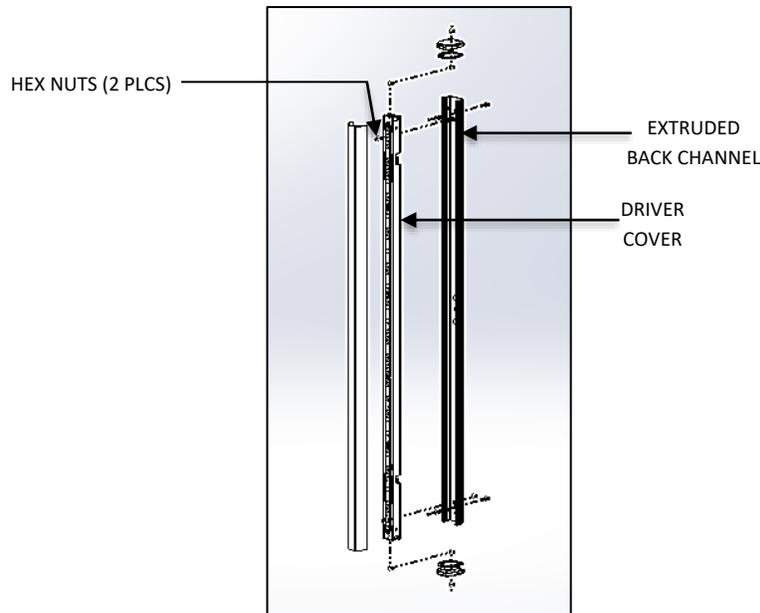

FIG.15 – DRIVER COVER ASSEMBLY
- Assemble the DRIVE COVER to the EXTRUDED BACK CHANNEL with the TWO #8-32 HEX NUTS as shown in the FIG.15.